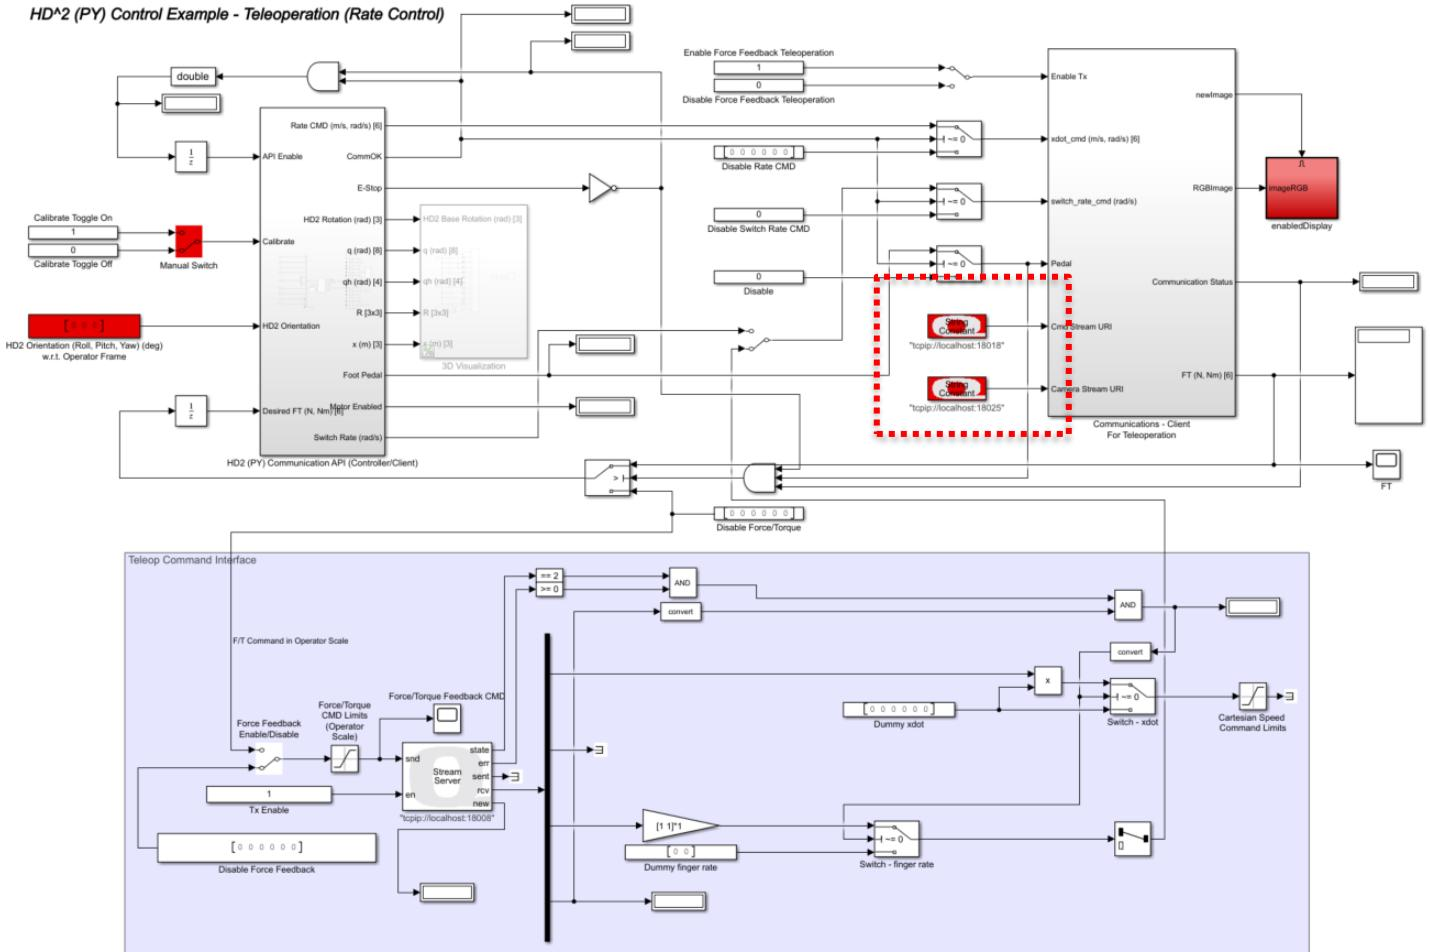

Figure 1: HD2_QARMTELEOPCLIENT block diagram with string constant blocks highlighted.
2. Modify the two red "string constant" blocks (highlighted in Figure 1), replacing "localhost" with the IP address of the remote PC.